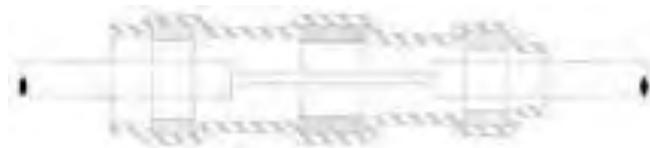

Figure 187
14. Align wires in such a manner that all strands are parallel. Then, slide the sleeve over the splice area and center the solder preform of the sleeve at the center of the splice length (Figure 187).